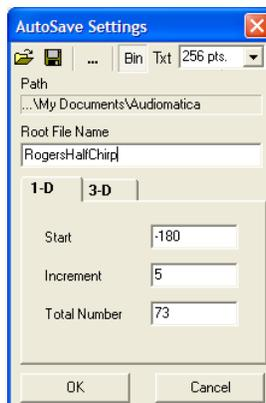

Fig.5.3a Autosave settings - 1D mode
**Path** defines the folder where the file will be saved; it is possible to choose it clicking on the browse for folder button (...). In Fig.5.3a we see path defined as My Documents\Audiomatica
**Root File Name** defines the part of the file name that will not change during autosave; in Fig.5.3a it is 'RogersHalfChirp'.